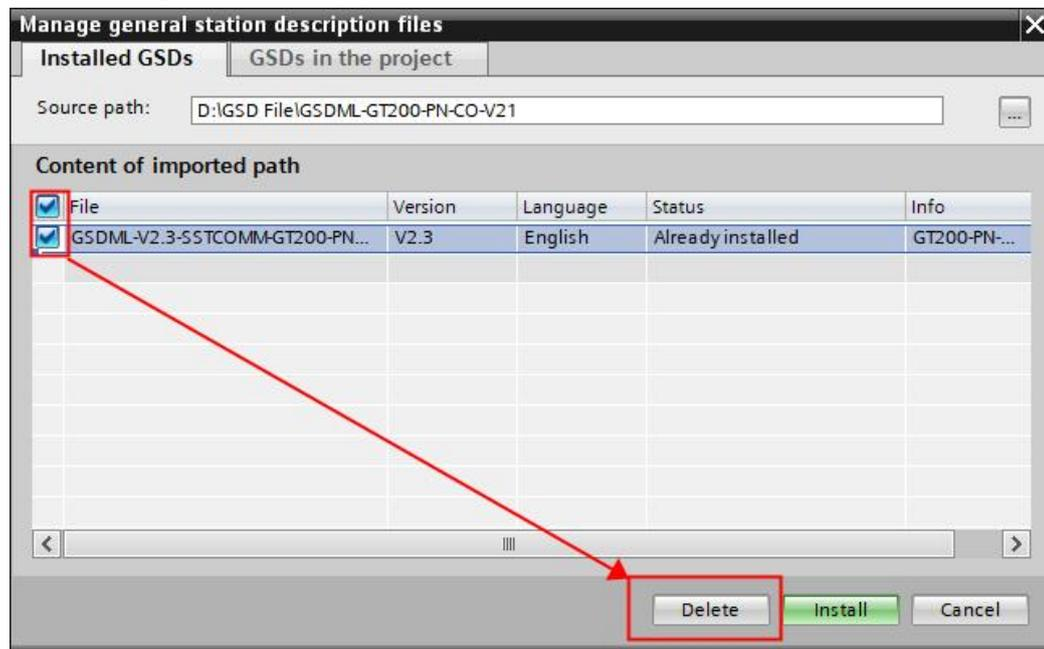

Figure 8: Delete GSD files
2.4 To delete GSD files, just select the files to be deleted and click "Delete", as shown in Figure 8.